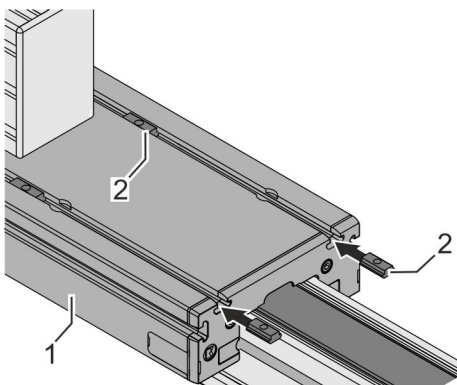

Fig. 29: Inserting slot stones
1. ➤ Insert and position at least 2 slot stones (Fig. 29/2) each in the slots of the guide carriage (Fig. 29/1).